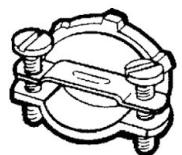

Fig. 13: Cable Clamp
- Insert your CAT5/6 Ethernet cable first through a cable clamp (Fig. 13) and then through a knockout located on the right side of the panel enclosure. Pull only enough of the Ethernet cable into the enclosure to allow the plug to be easily inserted into the Ethernet board receptacle.